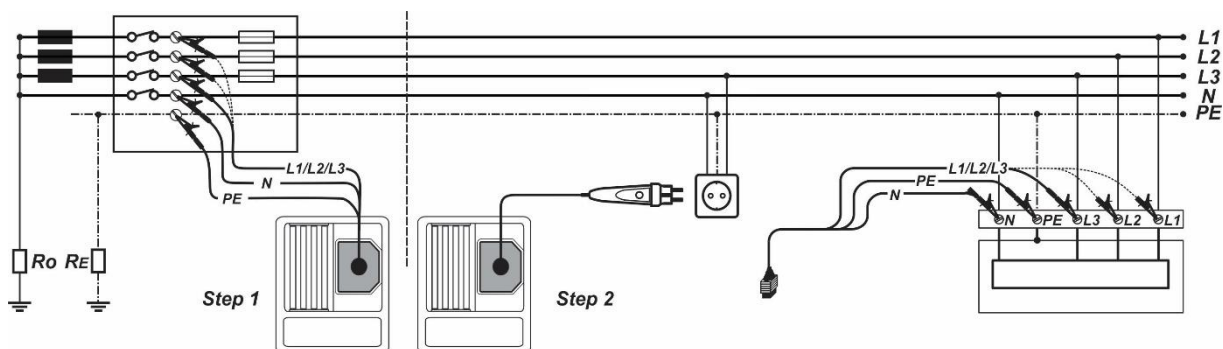

Figure 5.30: Phase-neutral or phase-phase voltage drop measurement – connection of plug commander and 3-wire test lead
- ❑ **Connect** the test leads to the origin of electrical installation (see *Figure 5.30*).
- ❑ **Connect** the test leads to the tested points (see *Figure 5.30*).